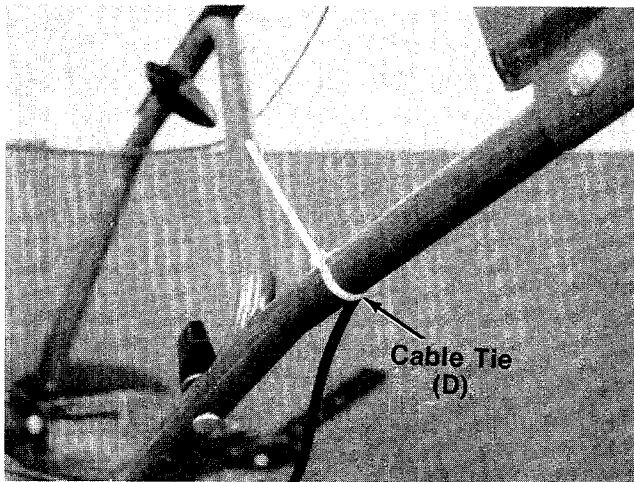

FIGURE 9.
11. Secure the clutch cable to the upper handle with cable tie (D) provided in hardware pack. See figure 9. Cut off excess end.